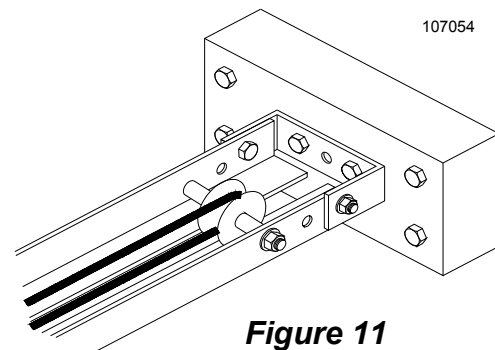

Figure 11
7) Tighten securely the two (2) bolts, nuts and washers that were loosely attached in Step 5. See Figure 11.